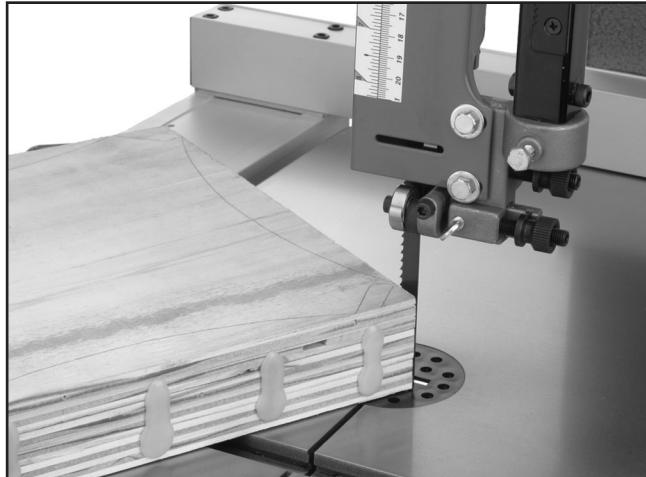

Figure 46. Typical stacked cut.
5. Cut the stack of pieces as though you were cutting a single piece. Follow your layout line with the blade kerf on the waste side of your line, as shown in Figure 46.